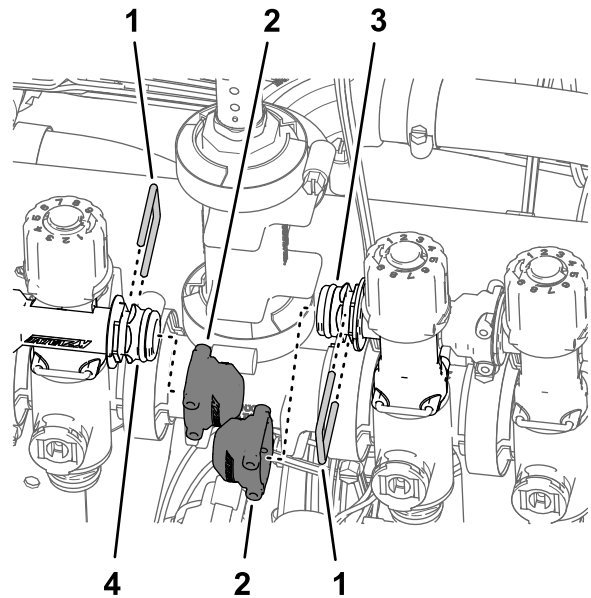

**Figure 103**
- Repeat steps 5 through 7 for the bypass valves of nozzle valve 6 and nozzle valve 7 (Figure 103).